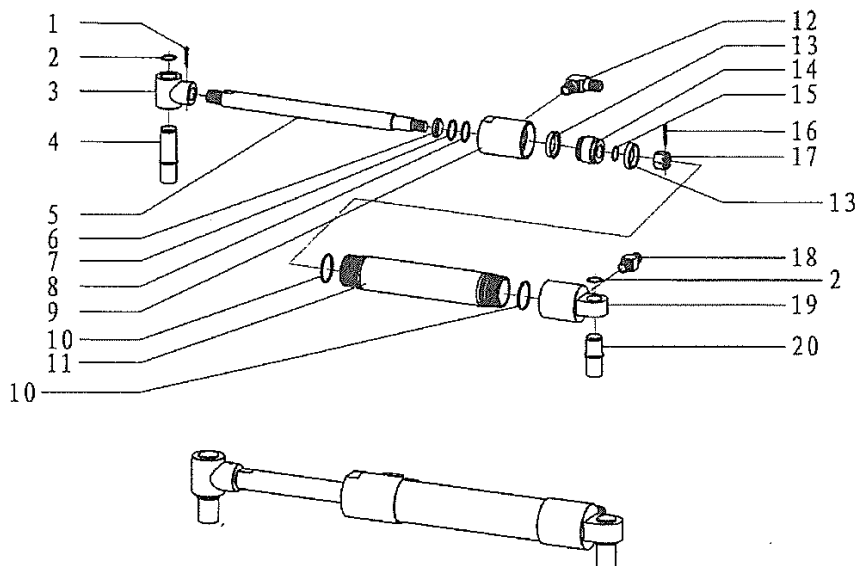

Fig23.
8.12 Clamp hydraulic cylinder (Fig23. Table23)